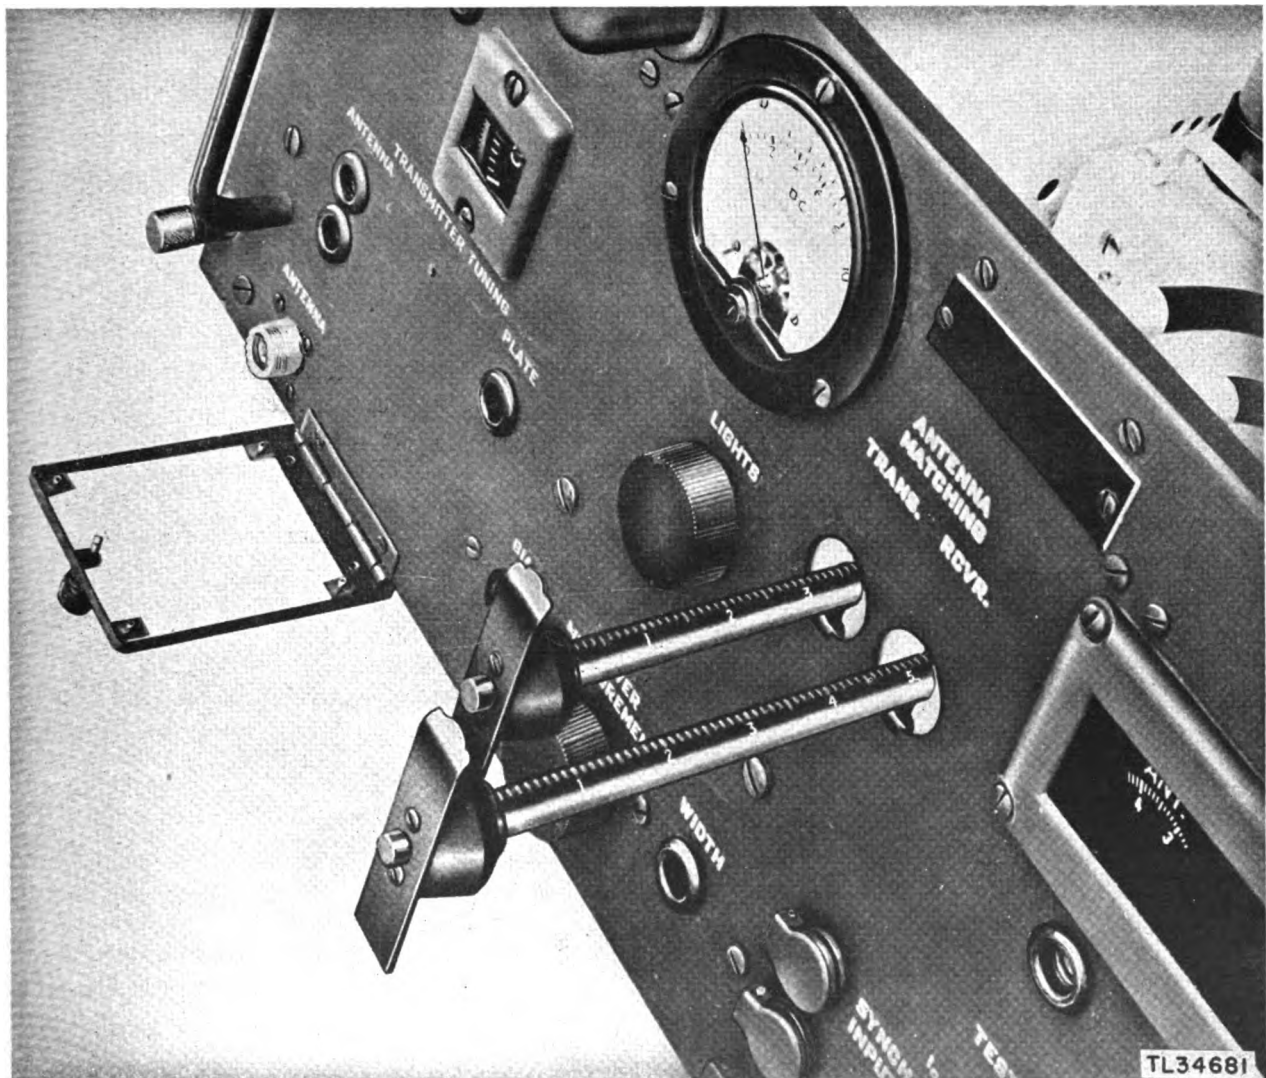

Figure 86. Adjusting rods of antenna matching section.
*j.* The ANTENNA MATCHING section is used to enable the receiver and transmitter to work into a common antenna (fig. 86). The settings should correspond roughly to maximum length, zero on the scale, for the low-frequency end of the band and minimum length, 7.5 on the scale, for the high-frequency end.
(1) PLATE CAP. (plate capacity) is pre-set for tubes at the factory.